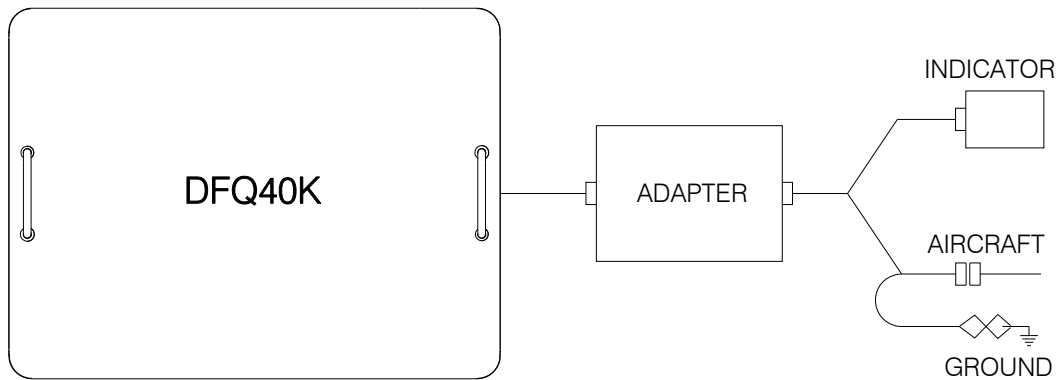

Figure 11 AIRCRAFT SYSTEM CALIBRATION, PREFERRED CONFIGURATION
(3) Gain access to the cockpit indicator or the appropriate Fuel Quantity System electrical connector(s) necessary for this procedure.**(4) Disconnect at the cockpit indicator or the appropriate electrical connector(s).****(5) It may be necessary to position an aircraft tank select switch and/or an Adapter Cable select switch for this procedure.****B. Connecting Test Set****(1) Position the equipment conveniently for the following procedures.****(2) Connect to the Test Set the Adapter Cable specific for the Aircraft being tested, as shown in Figure 11 or as directed in the Adapter Cable Instructions.****(3) Connect the Adapter Cable between the Indicator and the aircraft wiring plug.****(4) Connect the ground lead from the adapter (if so equipped) or from the Test Set **GND** receptacle, to a secure airframe ground.**